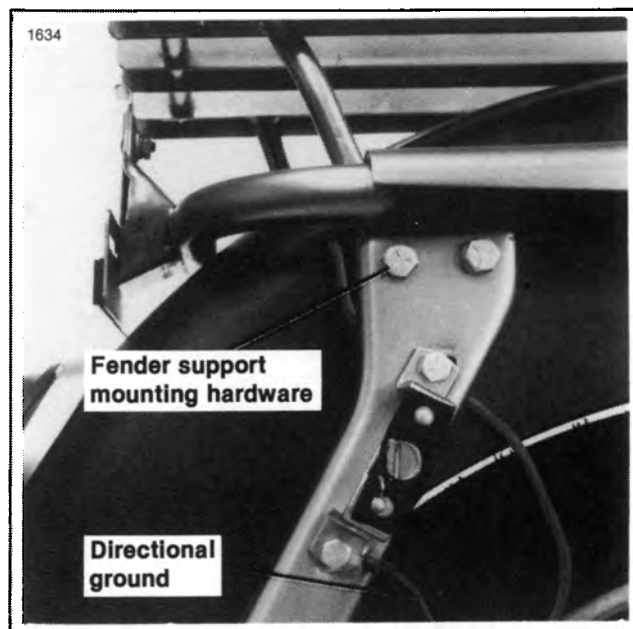

Figure 2-157. Fender Brace Bolts — FLT
8. See Figure 2-157. Remove the two 5/16-24 x 1-1/2 bolts and locknuts securing fender brace to the fender.
7. See Figure 2-157. Align fender and fender support and install the two 5/16-24 x 1-1/2 bolts and locknuts. Tighten fender bolts to 19 ft-lbs torque.